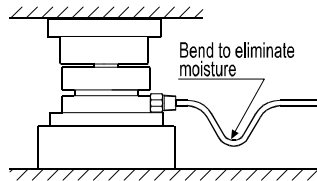

Figure 5.
(1) Provide a loop, to help eliminate moisture on the cable, in an area close to the load cell. (See Figure 5)